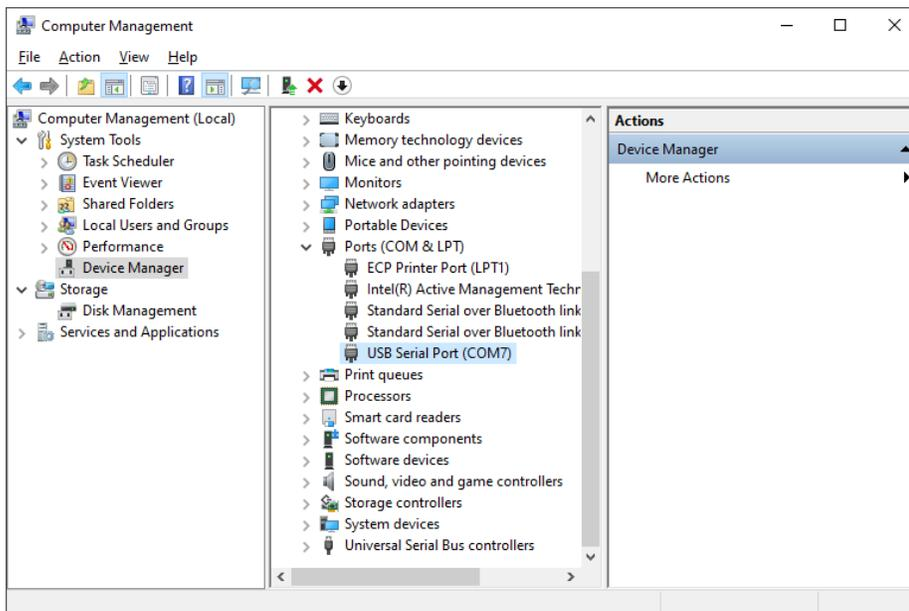

Figure 4. Click Device Manager
- Click **Device Manager**. A Computer Management screen like that in Figure 4 displays. Click the plus sign in front of Ports. In this case, COM7 is the only USB Serial Port shown.